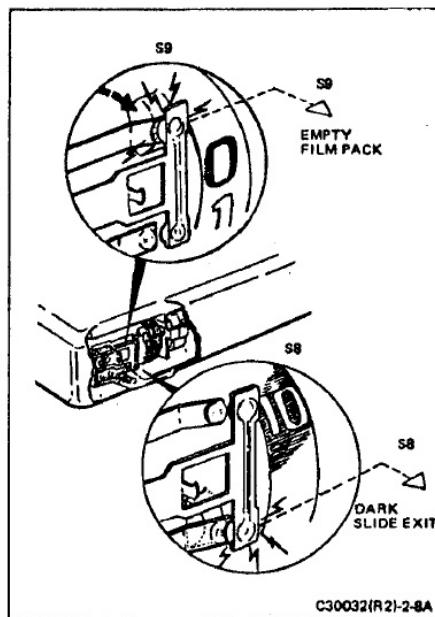

FIGURE 2-8A S8-S9 EXPOSURE COUNTER SWITCHES
- h. Switch S8 (Figure 2-8A) is part of the exposure counter operated by the counter wheel. As S7 closes, power is applied, ejecting the dark slide. After dark slide ejection, the counter wheel turns, opening S8. S8 then remains open until the film pack is removed. When the pack is taken out, S8 closes.